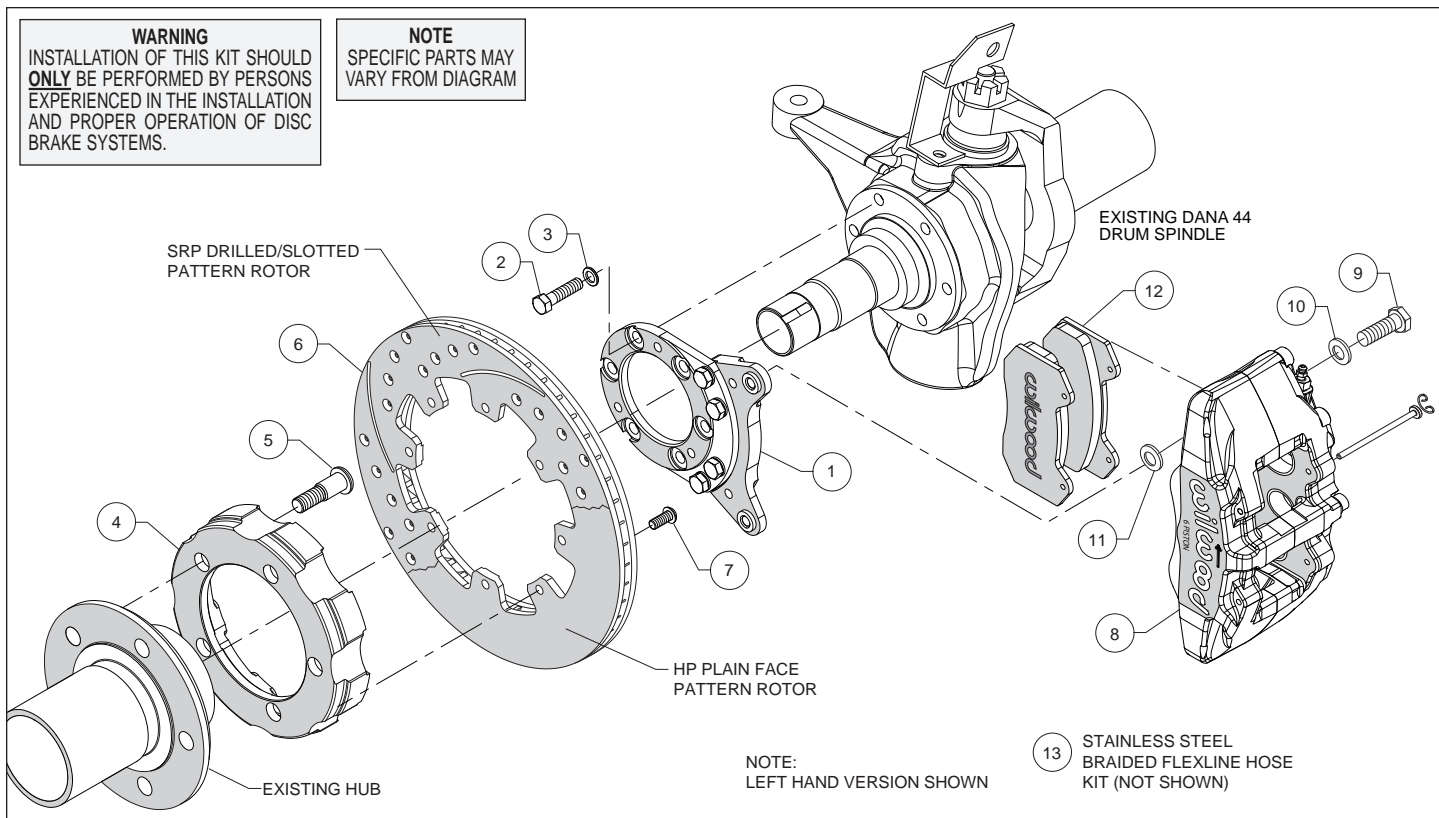
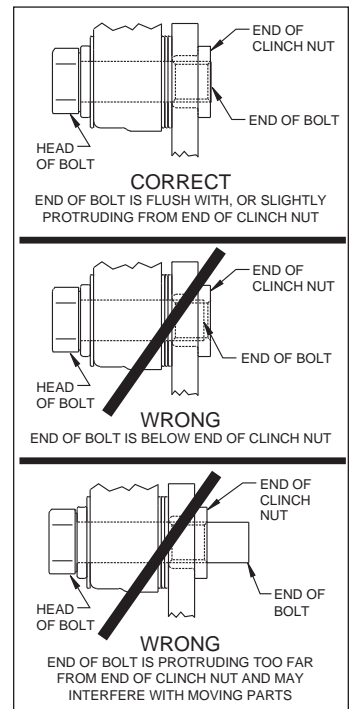

Figure 1. Typical Installation Configuration
Figure 3. Clinch Nut Engagement Diagram
Assembly Instructions (numbers in parenthesis refer to the parts list and Figure 1 on the preceding pages): **CAUTION:** *All mounting bolts must fully engage clinch nuts.* Be sure to check that all bolts are either flush or protruding through flanged side of clinch nut after shimming, Figure 3.
- Orient the caliper mount bracket (1) as shown in Figure 1 and Photo 1, and install using bolts (2), and washers (3). Ensure that the flanged heads of the clinch nuts in the bracket are facing outboard, Photo 1. Temporarily tighten the mounting bolts. **NOTE:** *The bracket must fit squarely against the mount bosses on the upright.* Inspect for interference from casting irregularities, machining ridges, burrs, etc. Remove bolts (2) one at a time, apply red *Loctite*[®] 271 to the threads and torque to 40 ft-lb.
- Orient the hat (4) and the OEM hub as shown in Figure 1 and Photo 2. **NOTE:** *The hat must fit flush against the axle hub or excessive rotor run out may result.* Install the wheel studs (5) thru the holes in the hat and press into the existing hub. **NOTE:** *We recommend this procedure be performed by a qualified machinist.*
- Orient the rotor (6) and the hat/hub assembly as shown in Figure 1 and Photo 3. Attach rotor to hat using bolts (7). Using an alternating sequence, apply red *Loctite*[®] 271 to the threads, and torque to 25 ft-lbs.
- NOTE:** *Please reference the caution statement at the beginning of the assembly instructions. This kit contains distinct right and left hand calipers that must be mounted in a specific direction, as described below.* Mount the caliper (8) onto the caliper mounting bracket (1) using bolts (9) and washers (10), as shown in Figure 1. Initially place one .035" thick shim (11) on each bolt between the caliper and the bracket, Photo 5. Ensure that the caliper is mounted so the largest pistons are at the rotor exit end of the caliper, in relation to the direction of rotor rotation. Temporarily tighten the mounting bolts and view the rotor (6) through the top opening of the caliper. The rotor should be centered in the caliper, Photo 6. If not, adjust by adding or subtracting shims (11)
between the bracket (1) and the caliper. Always use the same amount of shims on each of the two mounting bolts. **NOTE:** The end of each bolt must be flush with or slightly protruding from the head of the clinch nut, as shown in Figure 3. If necessary place spare shims between washer (10) and caliper mounting ear to achieve the proper clinch nut engagement. Once the caliper alignment and clinch nut engagement are correct, remove the caliper bolts and caliper.
- Remove the two pad retaining pins from the caliper (8) by carefully popping out the pin retaining clips and sliding out the pins. Insert the brake pads (12) into the caliper from the bottom, Figure 1 and Photo 7, with the friction material facing the rotor. Secure the brake pads in place with the pad retaining pins and clips, Photo 8. Reinstall the caliper onto the caliper mounting bracket using the same quantity of shims determined above. Apply red *Loctite*® 271 to bolt threads (9), and torque to 40 ft-lb.